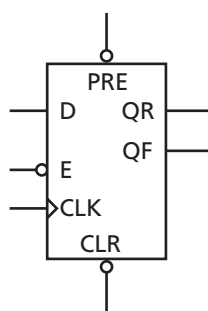

Figure 2-6 • DDR Register
2. Instantiate the DDR\_REG macro (Figure 2-6).